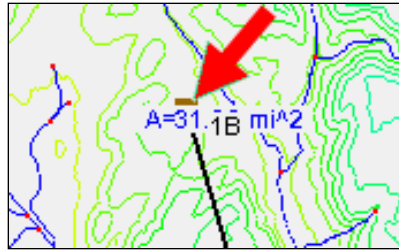

Figure 3 Basin icon 1B behind label, with top just visible
1. Using the **Select basin**  tool, double-click on the brown basin icon to bring up the *HMS Properties* dialog. The icon may be partially obscured by another label (Figure 3).